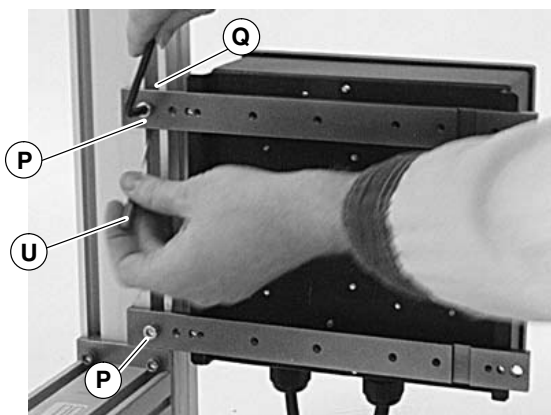

Figure 21
- With screwdriver (Figure 21, item U), raise T-bar (Figure 21, item Q) to align it with hole in top mounting bar. Insert M6 screw (Figure 21, item P) and partially thread into T-bar.
- Slide controller to its desired mounting location (Figure 22) and tighten both screws (Figure 21, item P).